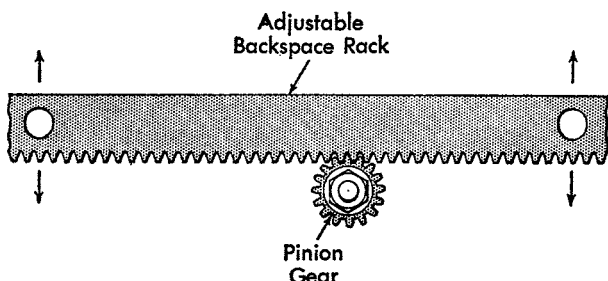

Figure 38. Backspace Rack Adjustment
4. BACKSPACE RACK. Adjust this up or down to obtain equal mesh between the backspace rack and pinion gear (Figure 38). This mesh should be checked at several places along the length of the backspace rack.